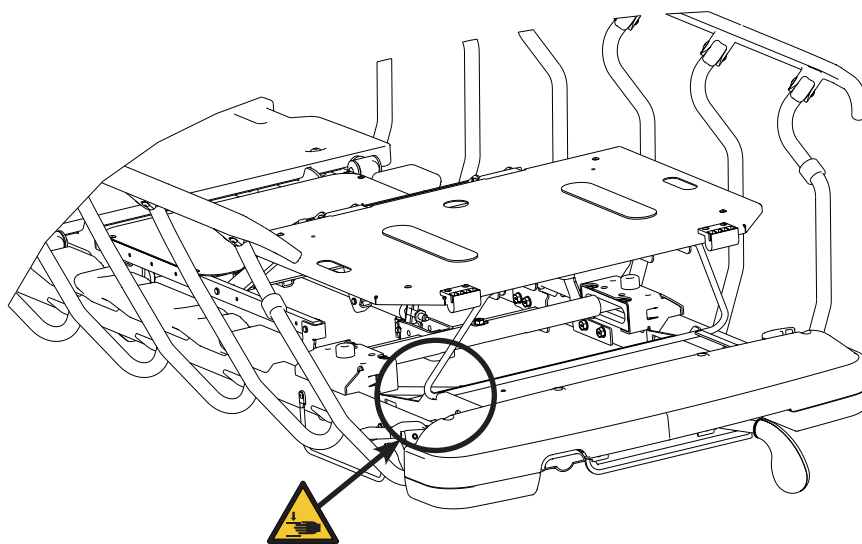

Figure 28: Gatch
To raise the gatch, pump handle (B) repeatedly to the left until the gatch has reached the desired height (5.5"/14 cm minimum) as shown in Figure 28.
To prop the foot end of the gatch up, lift up on the end of the gatch, allowing the prop rod to swing down and engage in the bracket as shown in Figure 28.
To release the prop, lift up on the end of the gatch, swing the prop rod toward the head end of the unit to disengage the bracket and lower the foot end as shown in Figure 28.
To avoid the risk of injury, ensure that the gatch prop rod is fully raised and securely placed into position (Figure 28).